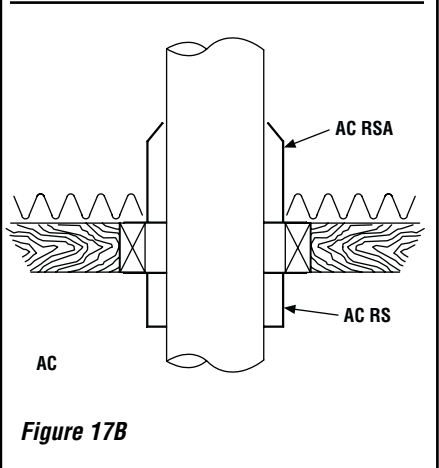

Figure 17B
5. From below, install a radiation shield (see **Figure 17B**).